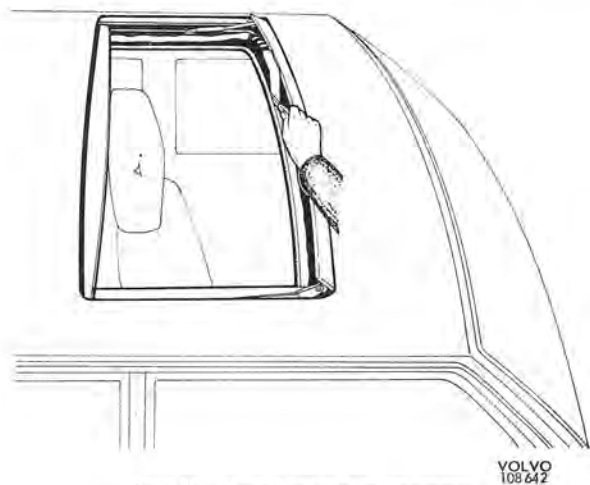

Fig. 8-56. Cutting headlining for sunroof
8. Cut the top side neatly with a sharp knife, that is, the part of the upholstery not covered by the piping (Fig. 8-56). It is not possible to cut the rear edge neatly since the sunroof is in the way.